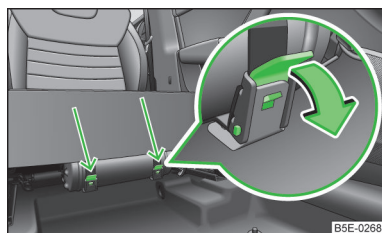

Fig. 196
- Loosen the two straps by pulling the buckles in the direction of the arrow » Fig. 196.